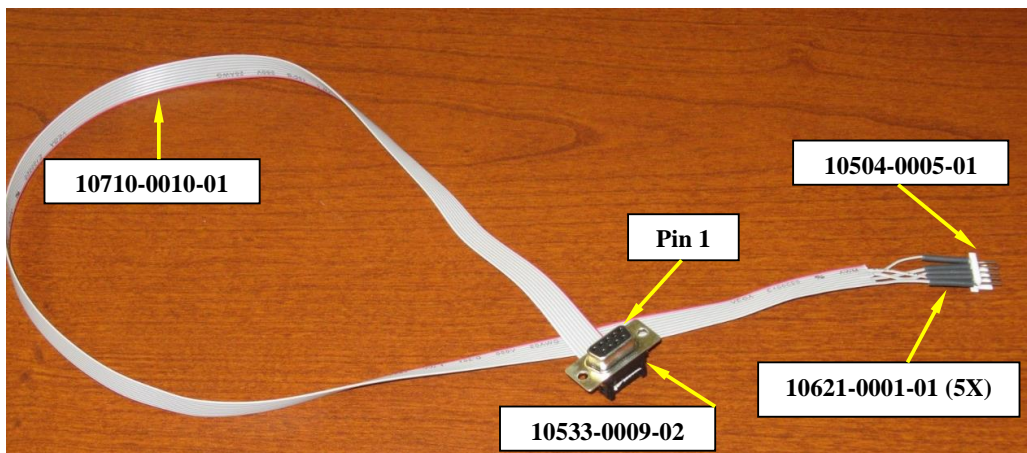

Figure 14
Step 9 IRB cable (see Figure 14)